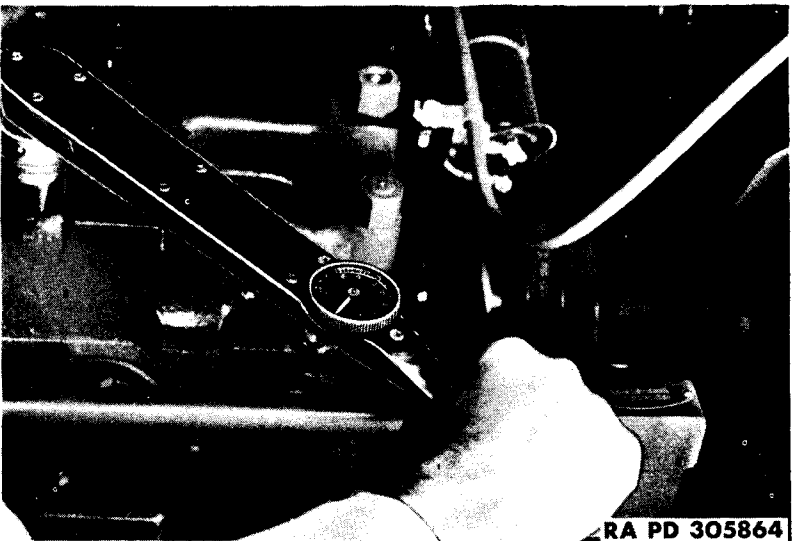

Figure 35—Tightening Cylinder Head Nuts with Wrench 41-W-3630
b. **Tighten Cylinder Heads.** Tighten all nuts gradually, using a tension wrench and following the tightening sequence shown in figure 35, until both cylinder heads are tightly secured. The proper tension reading for each nut is 105 foot-pounds.